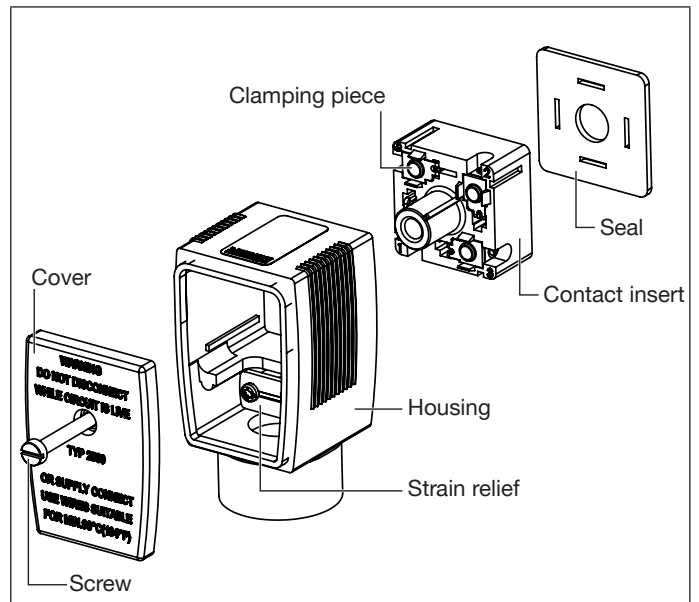

Figure 2: Exploded view of cable plug Type 2509
- Remove contact insert from housing (see „Figure 2“).